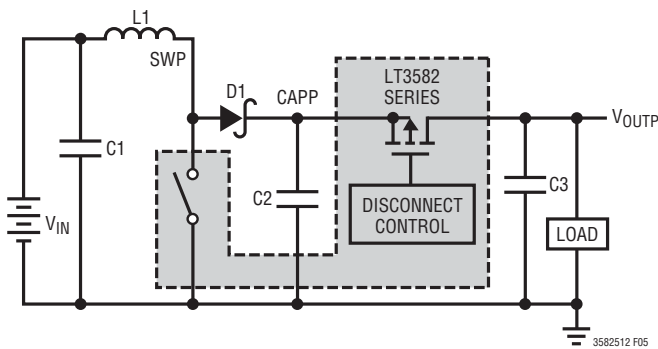
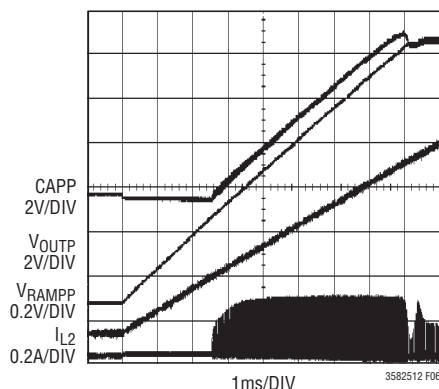

Figure 5. Boost Converter Topology
Figure 6.  $V_{OUTP}$  Soft-Start Ramping from Ground
For example, selecting  $I_{RAMP} = 1\mu A$ ,  $C_{RAMP} = 10nF$  and  $V_{OUTP} = 12V$  results in a power-up ramp rate of 1.5Volt/ms (see Figure 6).
**Ramping  $V_{OUTP}$  from Ground:** The LT3582 series has the unique ability to generate a smooth  $V_{OUTP}$  voltage ramp starting from ground and continuing all the way up to regulation (see Figure 6). This ability is not possible with typical Boost converters in which the output is taken from the cathode of the Schottky diode (CAPP node in Figure 5).
The LT3582 series incorporates an output disconnect PMOS allowing  $V_{OUTP}$  to be grounded during shutdown. Once enabled, the Disconnect Control circuit actively drives the PMOS gate allowing  $V_{OUTP}$  to ramp up linearly as shown in Figure 6. Once  $V_{OUTP}$  reaches regulation, the PMOS is fully turned “on” to reduce resistance and improve efficiency.